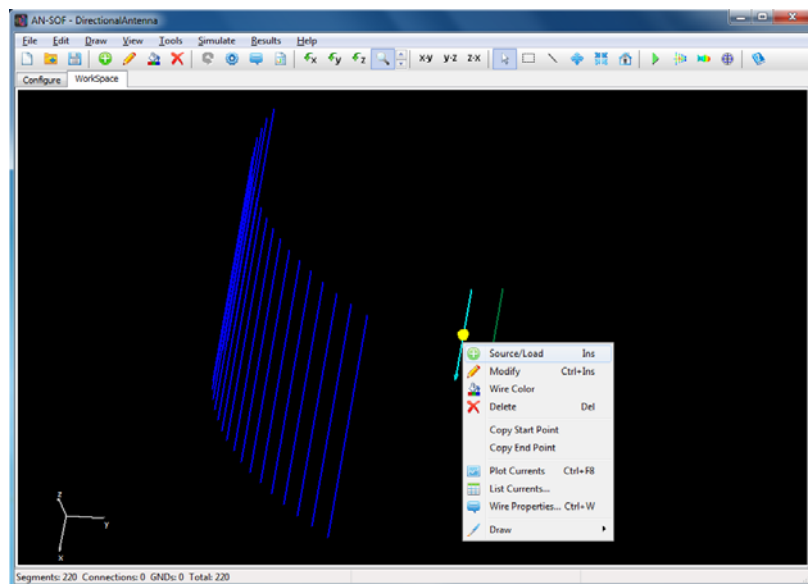

Fig. 8.3: Source/Load command in the pop-up menu.
By clicking with the right mouse button in any part of a wire a pop-up menu will be shown, Fig. 8.3. Choose the Source/Load command from the pop-up menu to display the Source/Load toolbar, Fig. 8.5.
1. By clicking with the right mouse button in any part of a wire a pop-up menu will be shown, Fig. 8.3.